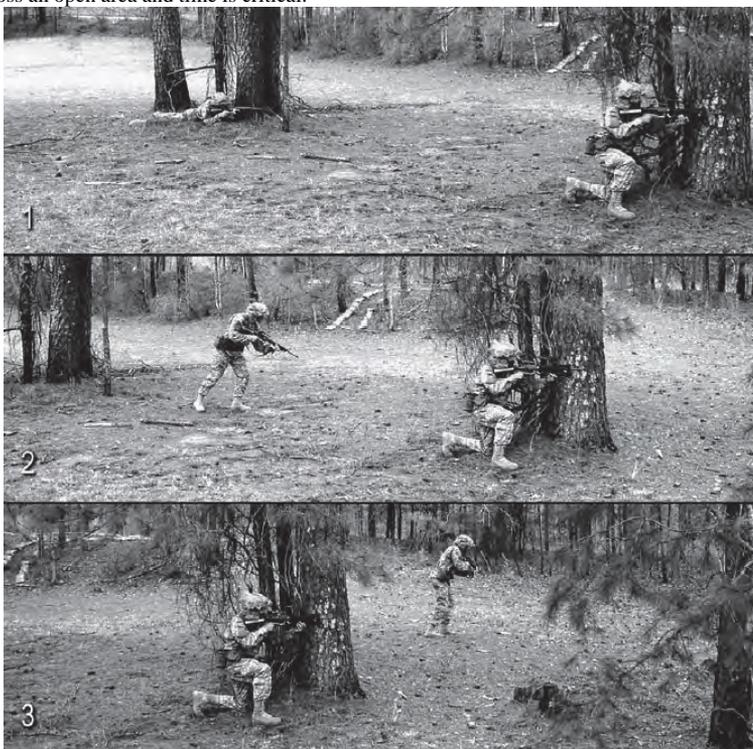

Figure 071-COM-1502-3. Rush.
c. Moved using the rush technique (Figure 071-COM-1502-3).